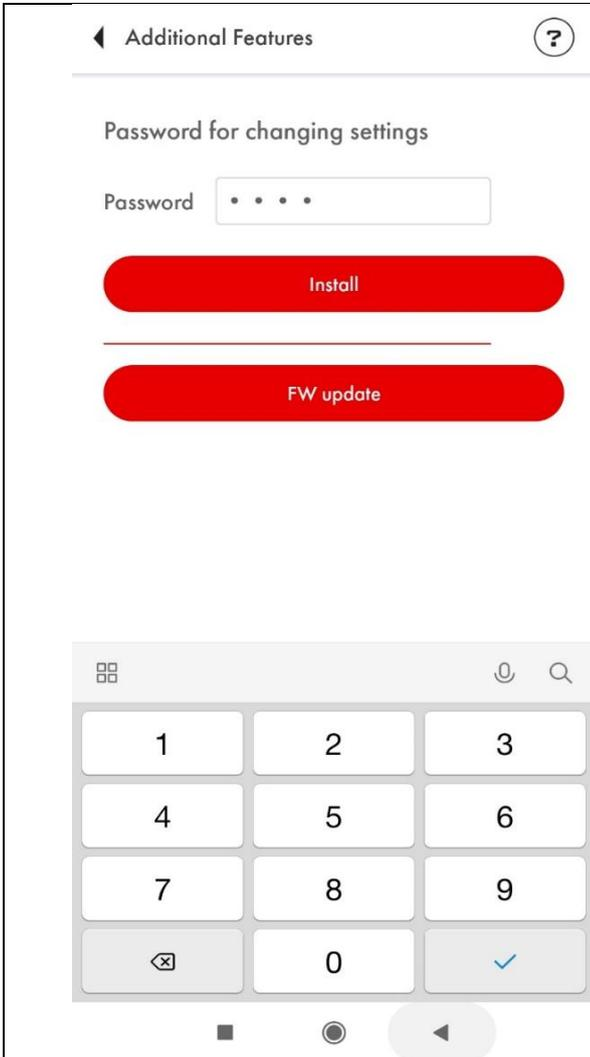

Fig. 9.12. Set the password via the **Additional Features** menu
10. After pressing the **Additional Features** button, you will see the menu, where the password can be set or removed. Also, you can find the **FW Update** button there. To set the password, simply introduce a combination of up to 6 digits and press **Install** (Fig. 9.12.)